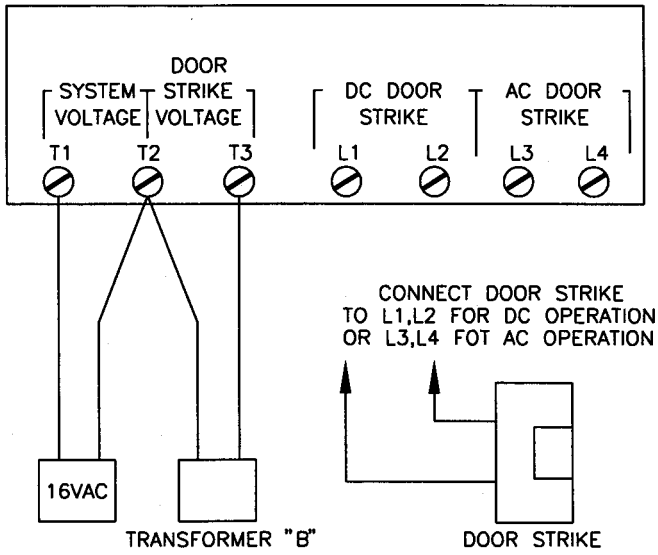

FIG. 4
For AC (buzzing) door strike operation, refer to figure 4 for wire connections. Select transformer "B" to suit the power requirement of the AC door strike. MIRCOCOM M-10 door strike requires the 8 VAC output of a PS-3B transformer for operation and transformer "B" is not required. Adjust door timing control for desired door open delay time.
For DC (silent) door strike operation other than with MIRCOCOM M-10 door strikes, connect 16 VAC to terminals T1, T2 of the amplifier and the required door strike supply voltage as shown in figure 4. The door fuse on amplifier will burn if the door strike current exceeds 3 A. Use of a higher capacity fuse voids warranty.
3. Connections marked 'X' are wired as per basic connection diagram or optionally as shown in figure 4.
USING A DOOR STRIKE OTHER THAN MIRCOM'S M-10/20, SELECT TRANSFORMER "B" TO SUIT THE POWER REQUIREMENTS OF THE DOOR STRIKE. CONNECT TRANSFORMER "B" TO T2 AND T3. SEE FIG. 4